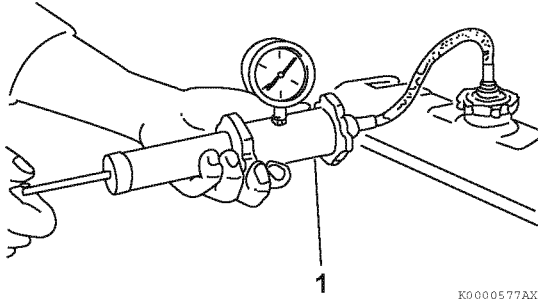

Figure 8-3
1. With the radiator properly filled, install a cooling system tester (1, **Figure 8-3**).